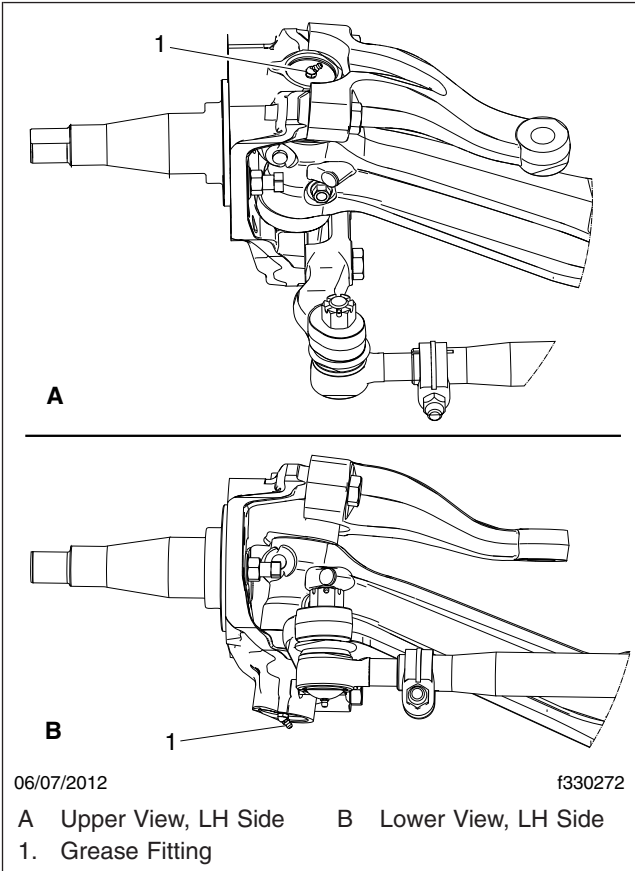
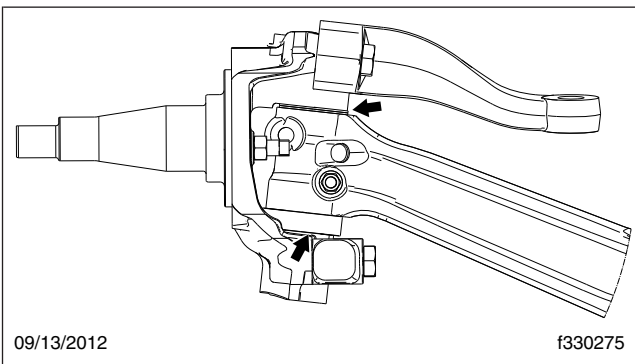

Fig. 7, Grease Fittings, Detroit Axles
Fig. 8, Kingpin Grease Exit Points, Detroit Axles
3. Apply multipurpose chassis grease, NLGI Grade 1 (6% 12-hydroxy lithium stearate grease) or NLGI Grade 2 (8% 12-hydroxy lithium stearate grease), until new grease is seen at the junctions of the axle beam and knuckles. For locations of grease fittings, see Fig. 7; for grease exit points, see Fig. 8.